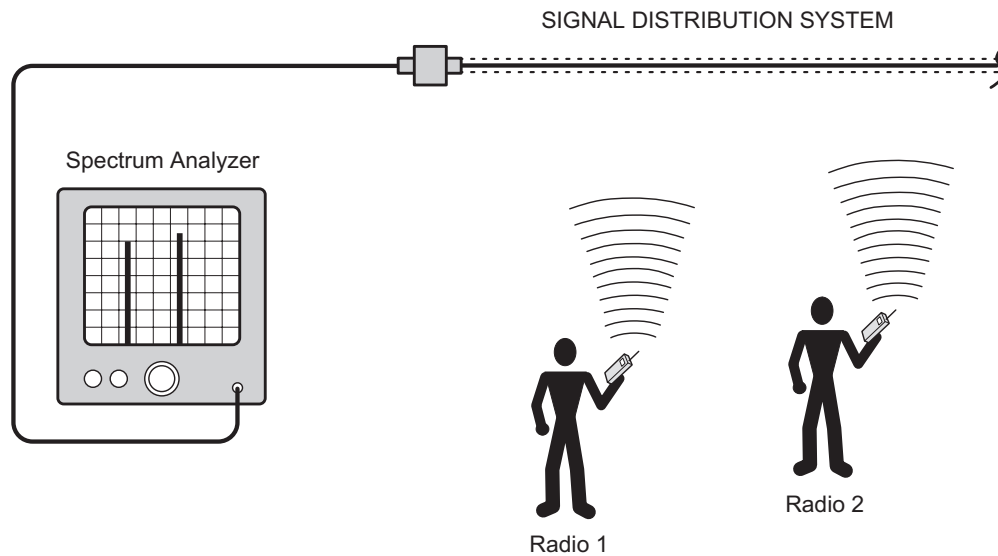

Figure 3: Typical test equipment setup for measuring input signal levels.
- 4) Connect the analyzer to the section of the signal distribution system that is going to serve as the input (see **Figure 3**).